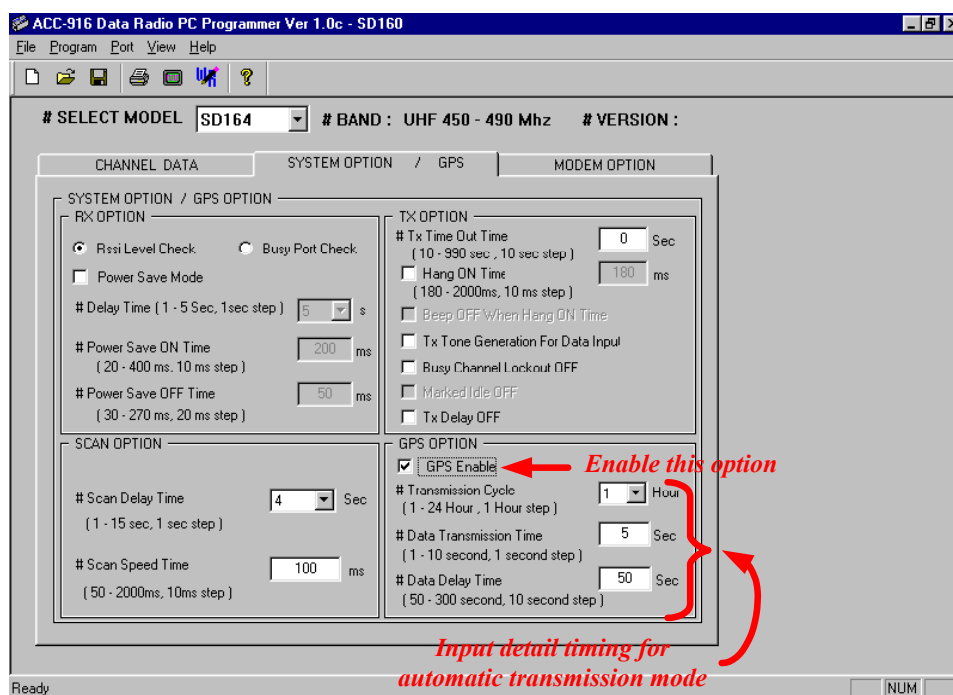

Figure 5.10. Editing GPS Option for Automatic GPS data transmission mode
4. Input detail timing for Transmission cycle, Data transmission time and Data delay time. (Refer to section 3.1. and Fig 5.10.).